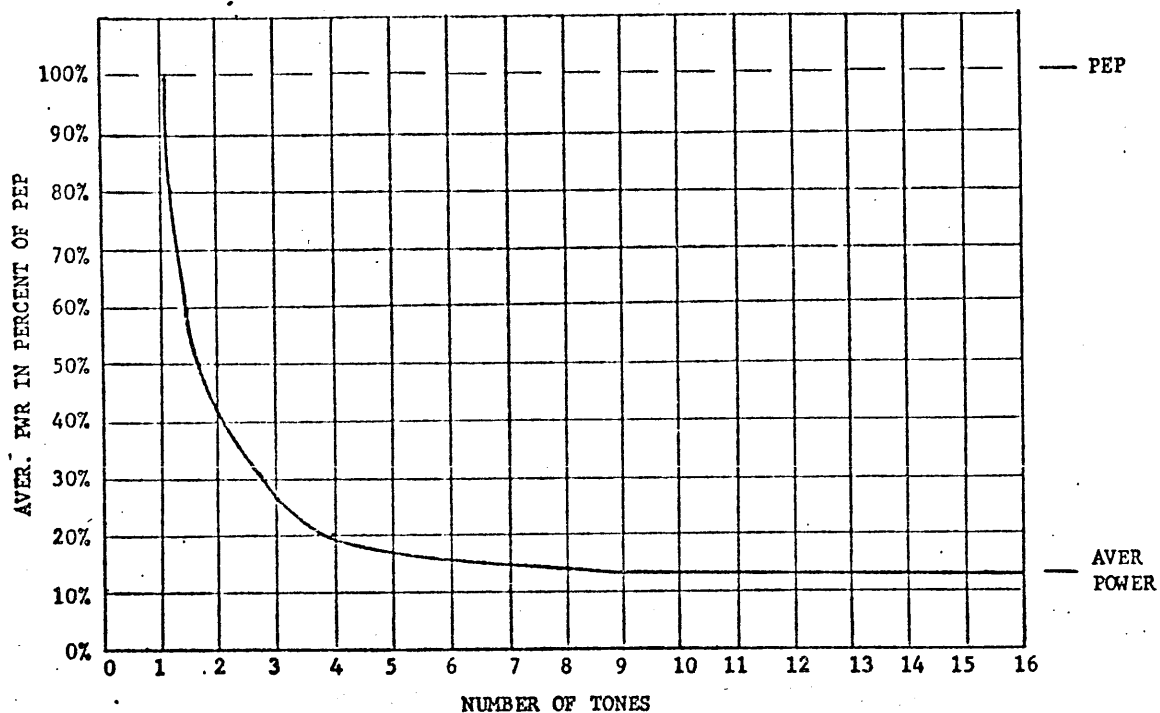

Figure 3-1. Ratio of Average Power and PEP
driven to that power level and that same power level was indicated on the OUTPUT meter. The peak envelope power and average power were equal, since all of the power was contained in a single tone, the carrier. In multitone or voice transmission, however, the peak envelope power and average power are not equal. The peak envelope power is derived from the addition of the carrier voltage and the voltage of each individual tone when the carrier and tones are in phase, or at the crest of the modulation wave. The transmitter is capable of providing 1,000 watts PEP in all intelligence modes; however, the average power, the power which is monitored by the OUTPUT meter, will be decreased in a multitone transmission: The more tones (teletype tones, carrier, voice, etc.) which are being transmitted, the less average power, as indicated on the OUTPUT meter. Figure 3-1 shows average power (measured in percent of peak envelope power) as a function of the number of tones being transmitted.
Two typical examples of proper operation, utilizing the relationship shown in figure 3-1, are given as follows:
(1) An A3J transmission of two teletype tones at the position 4 power level (1,000 watts PEP): The MMX(A)-2 MODE switch should be in the USB position and the CARRIER SUPPRESSION switch in the FULL position, providing full suppression of carrier. The transmission contains two tones, and by reference to figure 3-1 the maximum average power should be approximately 50% of the 1,000 watt PEP, or 500 watts average. The USB audio level control on the MMX(A)-2 should be adjusted so that the transmitter OUTPUT meter reads approximately 500 watts average.
(2) A3H transmission of voice at the position 3 power level (800 watts PEP): The MMX(A)-2 MODE switch should be in the USB position and the CARRIER SUPPRESSION switch in the 6 db position, providing carrier
A voice transmission contains an infinite number of tones, and by reference to figure 3-1, the average power for an infinite number of tones should be approximately 10% of the PEP available for tone transmission, or 10% of 200 watts (20 watts). The CARRIER SUPPRESSION switch in the 6 db position will provide approximately 200 watts on the transmitter OUTPUT meter, and the USB audio level control on the MMX(A)-2 should be adjusted so that the transmitter OUTPUT meter reads approximately 220 watts average (the addition of carrier and intelligence power).